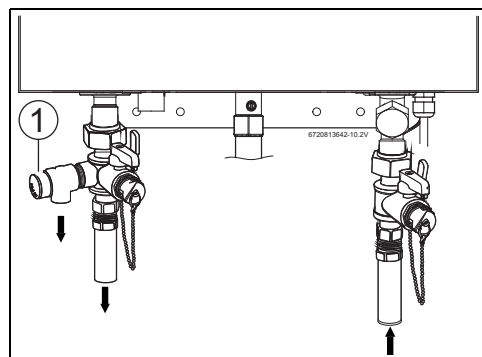

Fig. 14 Plumbing Connections (with shutoff valves) and Pressure Relief Valve
- ▶ Full port shutoff valves should be installed on both the cold water supply and hot water outlet lines to facilitate servicing the heater (see fig. 14).
A pressure relief valve must be installed at the time of installation. No valve is to be placed between the PRV and the heater. No reducing coupling or other restriction may be installed in the discharge line. The discharge line must be a minimum of 4" above a drain and installed such that it allows complete drainage of both the PRV and the line. The discharge line must be placed where it will not cause any damage. The location of the PRV must be readily accessible for servicing or replacement, and be mounted as close to the water heater as possible. See fig. 14. To install the PRV, a suitable fitting